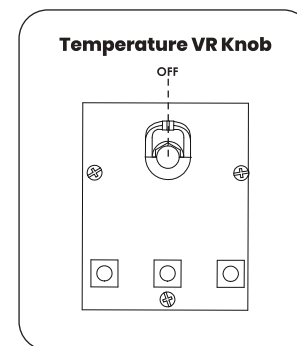

Fig. 6
1. Turn the Temperature VR Knob to “OFF” position at the heater base **(Fig. 6)**.